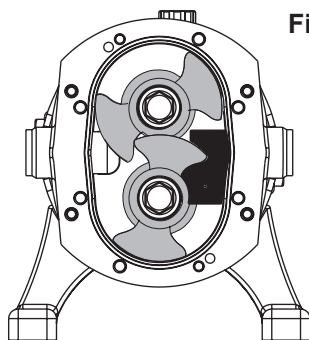

Fig. 8
5. Reposition the rotor locking piece as shown in fig. 8.
6. Undo the auxiliary shaft (39) bearing lock nut (50).
7. Remove bearing nut (50) and tabwasher (49).
8. Remove the rotors (35) as described in section 4.2.
10. Remove rotor case (9) and the oil seal plate as described in sections 4.3 and 4.7.
11. Remove shafts (38, 39) from the chassis (13) by applying force to the rear of the shafts. During this process, the bearings should be pushed free. Remove the shaft and bearings.
13. Clean the bearing seats of the chassis (13) and the shafts (38,39).
14. Fit new outer bearing races (45b,48b) and spacing washer (47) in the chassis(13).